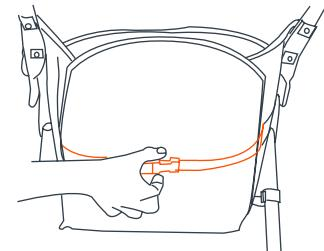
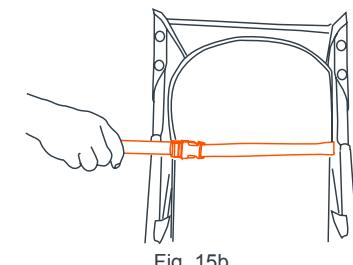

Fig. 15a
Fig. 15b
- 15) • The seat has a multiple position recline that is controlled by a strap and buckle assembly behind the seat (Fig. 15a). To recline the seat, loosen the strap through the buckle and adjust to the required recline position (Fig. 15b). To place the seat back in a more upright position, press upward on the seat back with one hand while pulling the strap through the buckle with the other. The strap will lock automatically. The upright position should be used only for a child that is **at least 6 months old**. Always re-adjust the safety harness, including the shoulder belts, when repositioning the seatback.